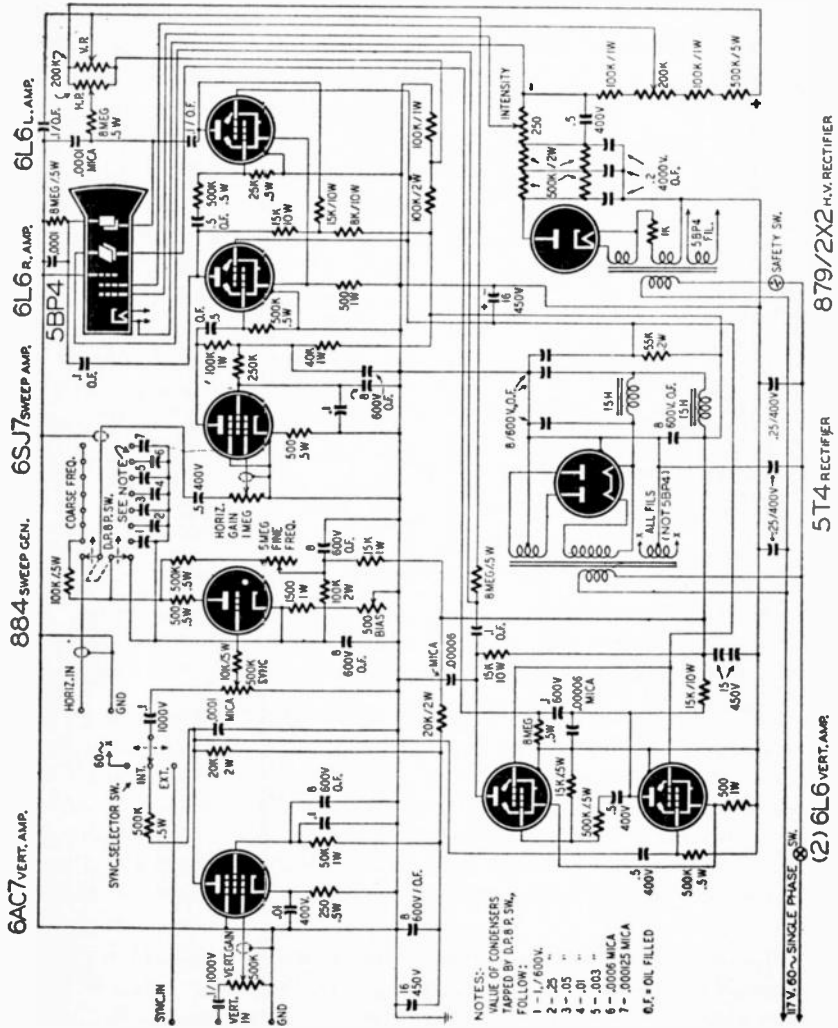

Fig. 612
A. A diagram is shown in Fig. 612 that will enable you to convert the oscilloscope for radio servicing. The 6L6 pulse and sweep generators and the 6SJ7 spread amplifier are discarded and an 884 gas triode oscillator sweep circuit is added to the circuit. Two controls have been added which permit the operator to make coarse and vernier adjustments on the sweep frequency. Input jacks for external synchronizing voltages and for the horizontal and vertical amplifiers are used for external coupling to the unit.